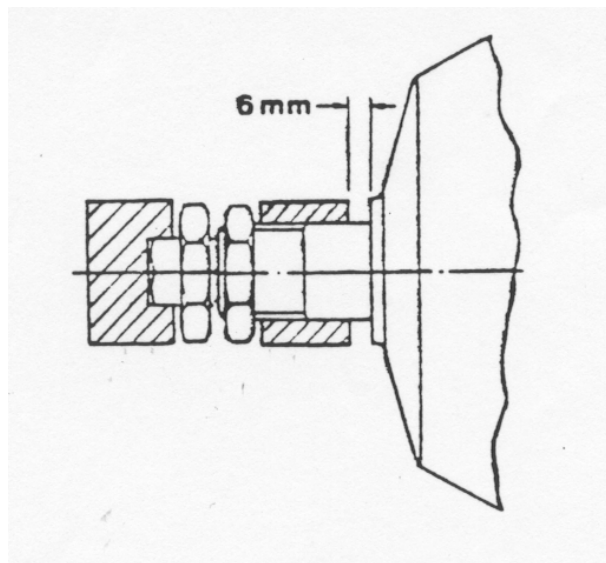

FIGURE 3. THRUSTER TO CALIPER ARM ASSEMBLY
- 2.6 To fit the thruster remove the two 3/4" BSP (ISO G3/4) locknuts and offer the hexagon pushrod through the hole in one of the caliper arms, place locknuts on pushrod, and make sure the hexagon fits into the slot in the opposite arm. Pull the arms apart so that the brake pads are pressing against the disc and rotate the hexagon pushrod until the gap between the thruster body and the arm is 6mm with the hexagon fully engaged in the slot (see Figure 3). Tighten the locknut to 50 - 60Nm (37 - 44 lbf - ft) torque to secure the thruster to the arm. Tightening this nut compresses a spring inside the thruster and it should